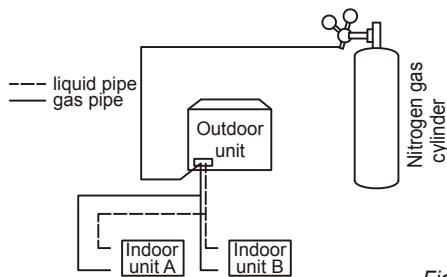

Fig. 5-13
4. Use blind plugs to block all liquid (gas) side openings, except for the opening at the indoor unit which is furthest from the outdoor units ("Indoor unit A" in Figure 5-13).